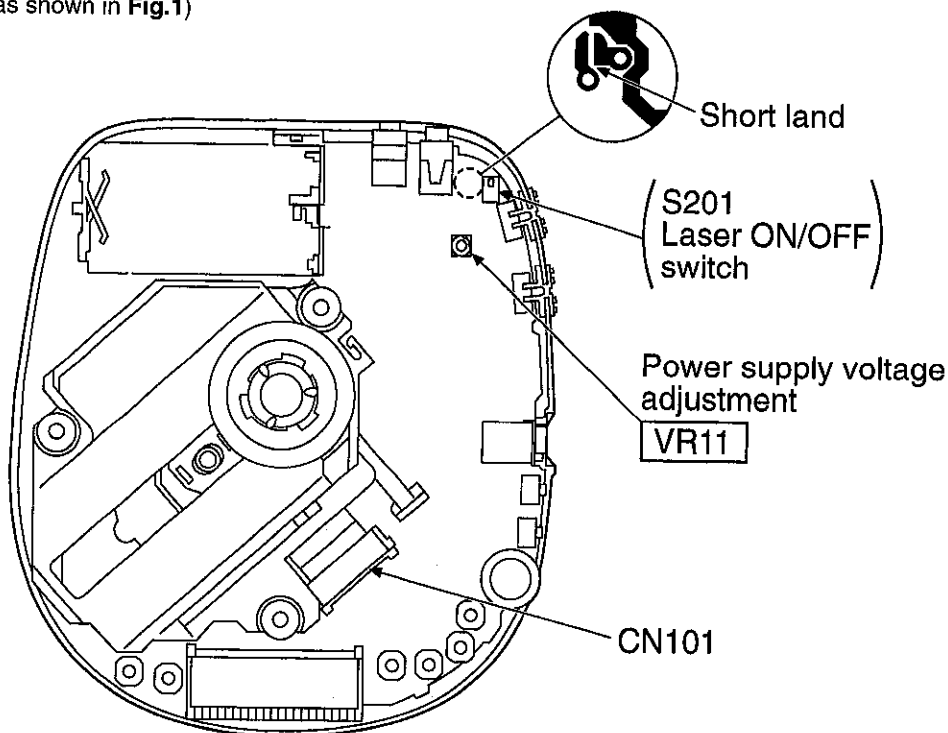

Fig. 1
Short-circuit the lands of the laser ON/OFF switch (S201) by soldering them. It turns "ON" position. (Refer to below Fig. 1. or printed circuit board and wiring connection diagram for short land location on page 18.)
2. Take care to connect CN101. (as shown in Fig.1)
2. Connect the AC adaptor cord to the DC (IN) port and move the PLAY switch to the ON position. Anti-shock is set in OFF position. (Use a new dry cell battery or a rechargeable battery that is full charged.)
4. Adjust **VR11** on the P.C.B. at  $2.45 \pm 0.02V$ , as shown in Fig.1.